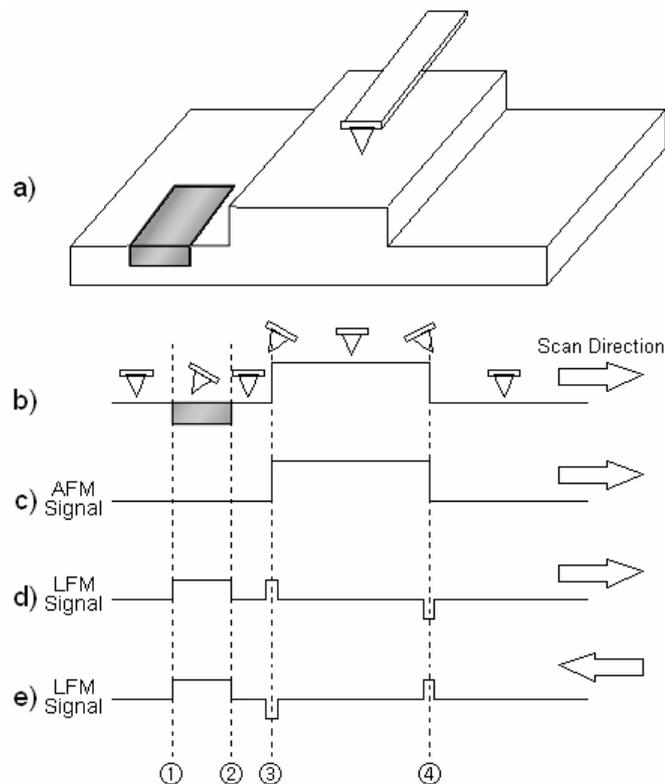

Figure 7-26. AFM and LFM signal
Figure 7-26 (a) shows a surface structure with a centrally located step with low, smooth areas on either side. The flat part on the left contains a domain with a relatively high frictional coefficient. **Profile b** indicates the cantilever's deflection as it encounters topographic features as well as different frictional coefficients as it scans from left to right. **Profile c** is an AFM image of the surface height and structure; it is represented by the change in the vertical deflection of the cantilever which does not include the horizontal deflection. **Profile d** and **Profile e** show the LFM signal which indicates the horizontal deflection of the cantilever. When scanning from left-to-right, a surface structure with a sudden peak will instantaneously twist the cantilever to the right. This results in a lateral force signal with a convex shape as seen in Figure 7-26 (d) ③. The opposite occurs when the probe encounters a sudden downward step as depicted at location ④. The region between ① and ② indicates an area on the sample surface where there is a material with a higher surface frictional coefficient compared to the surrounding area. There are no distinguishable surface features that will allow the user to differentiate this region utilizing the height signal. Even though the topographical information is the same between ① and ②, there will be a conspicuous difference noticeable in the LFM signal. When the cantilever scans this area from left to right, an increase in relative friction will cause it to tilt to the right, thus producing an increase in the LFM signal.
Figure 7-26 (e) shows the LFM signal when the scan direction is reversed. If the cantilever scans in the direction as indicated by the arrow, there will be no change in the LFM signal at region ③ and ④ which are related to the topographic features of the sample surface. However, when the scan direction is reversed, the cantilever will now tilt to the left in the area where the frictional coefficient between ① and ② is larger, yielding a decrease in the LFM signal in this area.